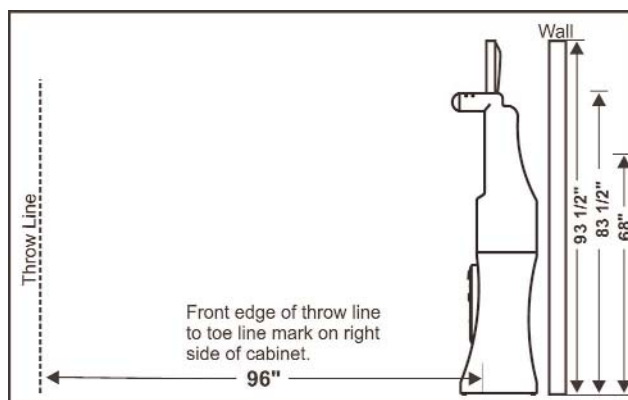

Figure 1: Side view of play field
8. Place the throw line Eight feet (96”) from the center of the bullseye. (See Figure 1)